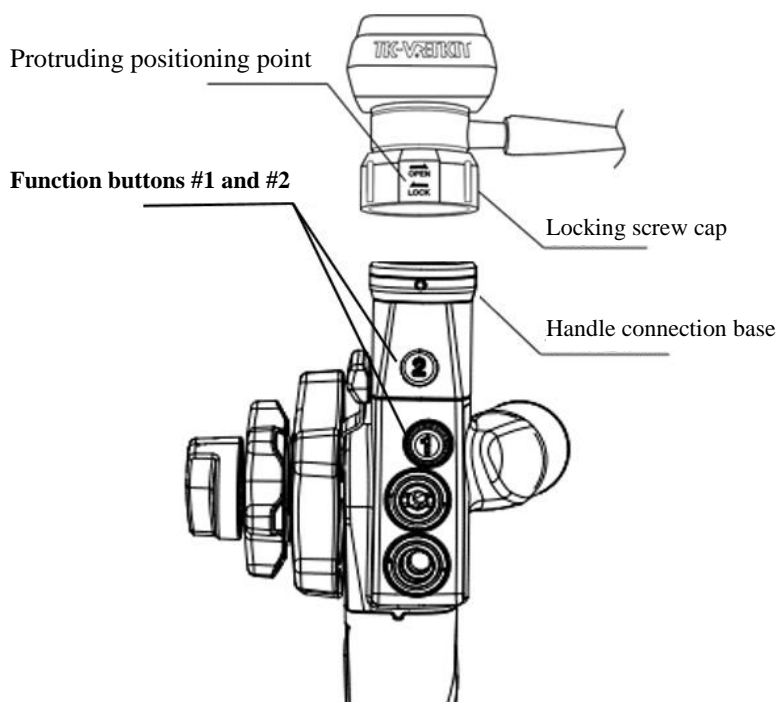

Figure 3.11
3. Before connection, align the protruding part marked with "OPEN" and "LOCK" on the locking screw cap and the function button ① on the endoscope. Then, hold the locking screw cap of the video adapter cable with your right hand and press it downward into the handle connection base until it is fully inserted. Tighten the locking screw cap of the veterinary endoscopic image processor with your right hand in the direction indicated by LOCK. (As shown in Figure 3.11)